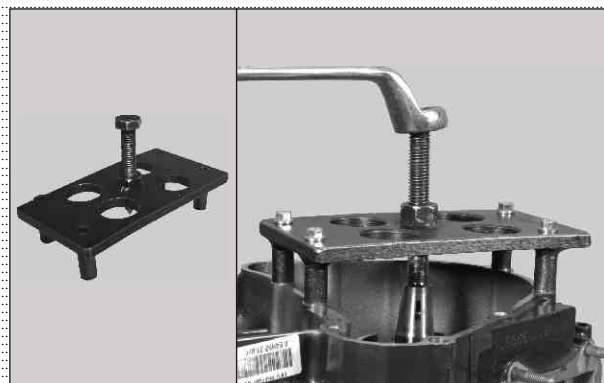

Fig. 1.13
- To separate crankcase Land R. (Fig 1.13)